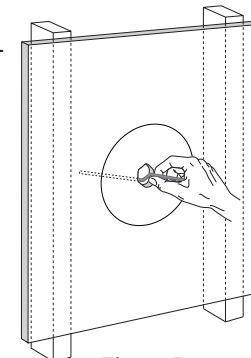

Figure 7
2. In the center of the circle just drawn on the mounting surface, make a small pilot hole. Insert a long wire (with an insulated handle) into the opening and verify there are no objects located in the ceiling where the Loudspeaker will be installed. Refer to figure 7.